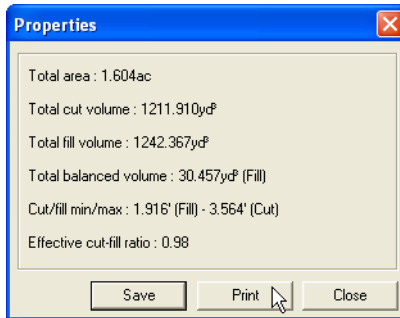

Figure 10-4. Print Plot Properties As Text File
1. Click **Cut/Fill ► Plot properties** and click **Print** (Figure 10-4).